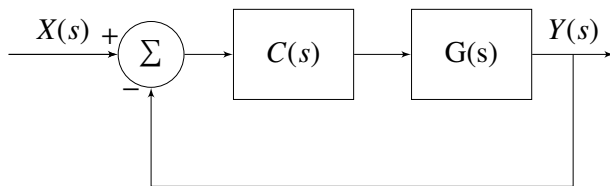

Fig. 2.2
2.1. An aircraft roll control system can be represented by a block diagram shown in Fig. 2.2 with $G(s)$ in feedback system, whose error $K_v = 5$. Determine K
2.2. The block diagram is given by Fig.2.2